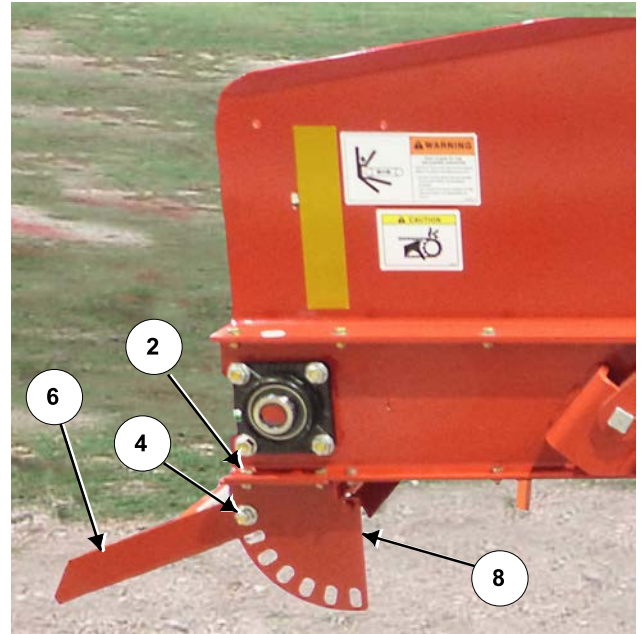

Figure 4: Attach Right Adjustment Bracket Position and Fasten Deflector
4. Insert the rotation pin of the deflector (6) into the top hole of the left adjustment bracket, see *Figure 4*.
5. Place the rotation pin of the deflector (6) into the top hole of the right adjustment bracket (8), see *Figure 4*.
6. Attach the right adjustment bracket (8) onto the bottom of the discharge conveyor, see *Figure 4*.
- Use 2 of 5/16" x 3/4" hex bolts (2) and flange locknuts to fasten in place.
7. Move the deflector (6) to the position desired, see *Figure 4*.
- Fasten in position with 2 of ½" x 1" carriage bolts and flange locknuts (4).